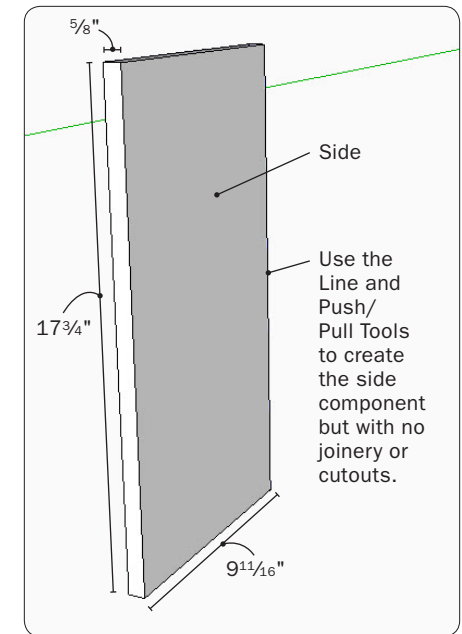

Figure 4. Begin by making the side component.
Step 1 Use the Line Tool to create a rectangle forming one edge of the side. It's easiest to draw on the green and blue axes to make the rectangle the proper height and width. Use the Push/Pull Tool to make the piece $\frac{5}{8}$ -in. thick. Use the Select Tool to draw a Selection Box around the object, right-click, and choose Make Component from the pop-up menu. Name the component Side (Figure 4).